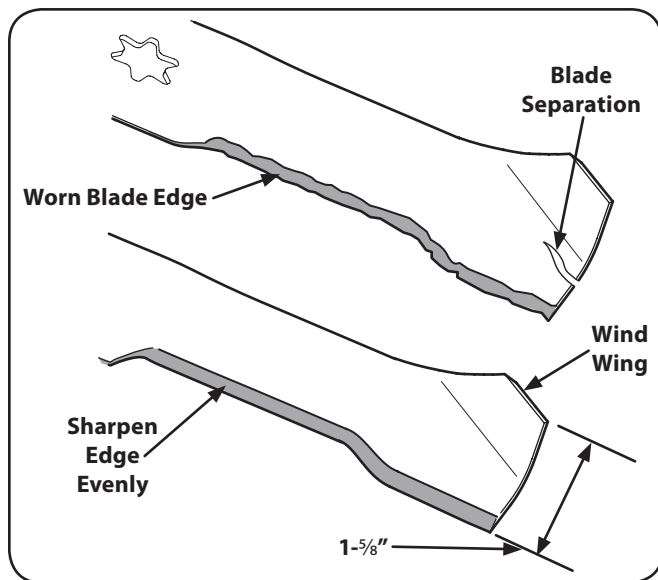

Figure 7-3
**NOTE:** If the cutting edge of the blade has already been sharpened to within 1-5/8" from the edge, or if any metal separation is present, replace the blades with new ones. See Figure 7-3.